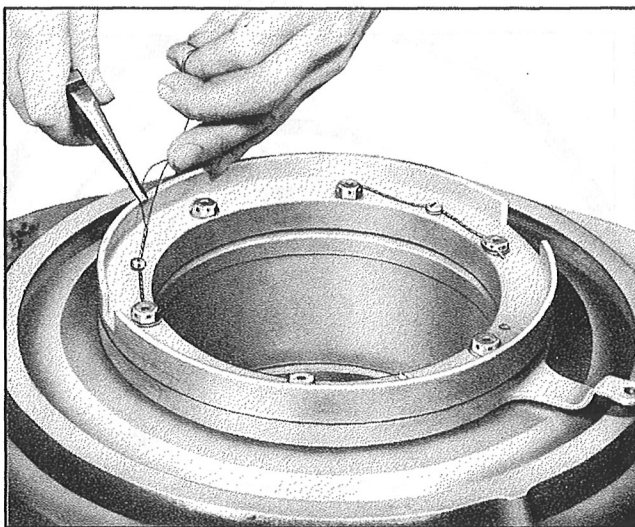

Figure 175—Installation of the Adapter Plate
*Step 33.*—Install the adapter plate and attach by  $\frac{1}{4}$ " x 28 capscrews, using a  $\frac{7}{16}$ " socket wrench. Tighten with 8 to 10 foot pounds and safety with .032" wire, as shown in Figure 175.